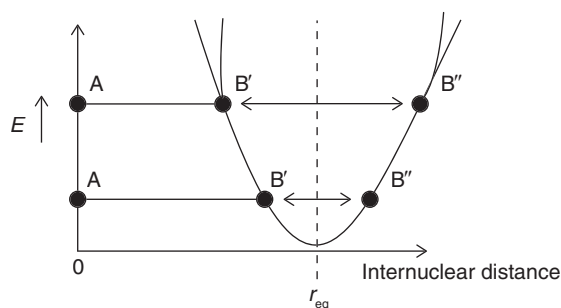

Figure 14 Plot of energy vs. internuclear distance.
When two atoms combine to form a stable covalent molecule (e.g., HCl gas), it is possibly because of some internal electronic rearrangement. On the one hand there is a repulsion between the positively charged nuclei of atoms and between the negative electron clouds. On the other hand, there is an attraction between the nucleus of one atom and the electrons of the other, and vice versa. The two atoms settle at a mean inter-nuclear distance such that these forces are just balanced and the energy of the whole system is at a minimum. Attempt to distort the bond requires an input of energy. If energy is plotted against internuclear distance, the minimum intermolecular distance is referred to as the equilibrium distance r_{eq} or more simply as the bond length (Figure 14). It resembles the parabolic curve of energy plotted against the extension or compression of a spring obeying Hooke's law.
Figure 14 shows that if one atom (A) is considered to be stationary on the $r = 0$ axis, the other will oscillate between B' and B''. If the energy is increased to E_2 , the oscillation will become more vigorous – that is to say, the degree of compression or extension will be greater – but the vibrational frequency will not change. An elastic bond, like a spring, has a certain vibration frequency dependent upon the mass of the system and the force constant, but independent of the amount of distortion classically, the oscillation frequency is